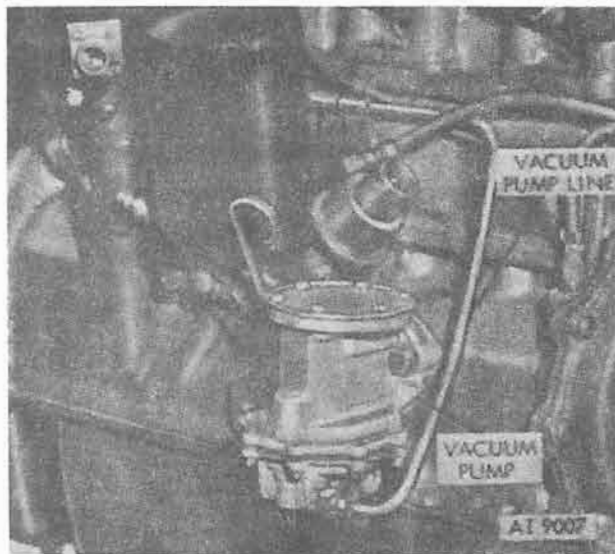

Figure 4-59. Vacuum pump (M151, M151A1, M151A1C and M718 vehicles).
a. *Vacuum Pump—M151, M151A1, M151A1C, and M718 Vehicles* (fig. 4-59). Disconnect vacuum line at vacuum pump. Remove pump and gasket from cylinder block. Discard gasket. Refer to TM 9-2320-218-20.